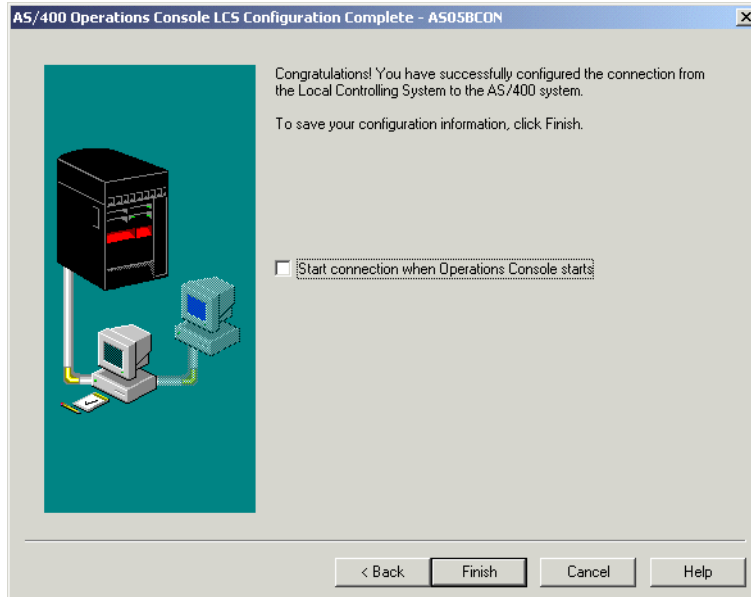

Figure 7-43 AS/400 Operations Console LCS Configuration Complete screen - secondary
13. Once all the profile information is stored, the connection definition is completed (Figure 7-43). Click **Finish**. We recommend that you leave the **Start connection when Operations Console starts** box deselected (clear) until you verify that the connection and associated functions work properly. It is more difficult to work with setup problems once the connection starts.